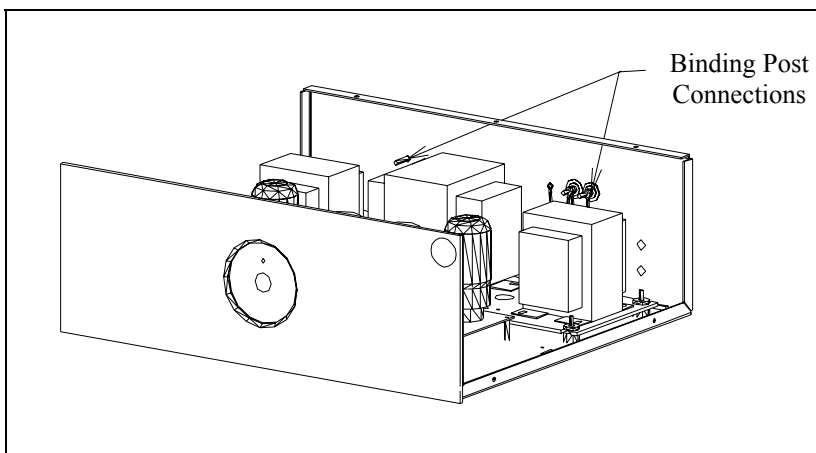

Figure 5
7) *Matching Speaker Impedance* - The Rogue 88 provides options for either 4 ohm or 8 ohm speakers. The impedance selected will depend on the speakers used. Consult either the owner's manual for your speaker or your local dealer for the correct choice. To switch impedance setting, refer to figures 5 and 6. Note - the amplifier is factory set for 8-ohm speakers.